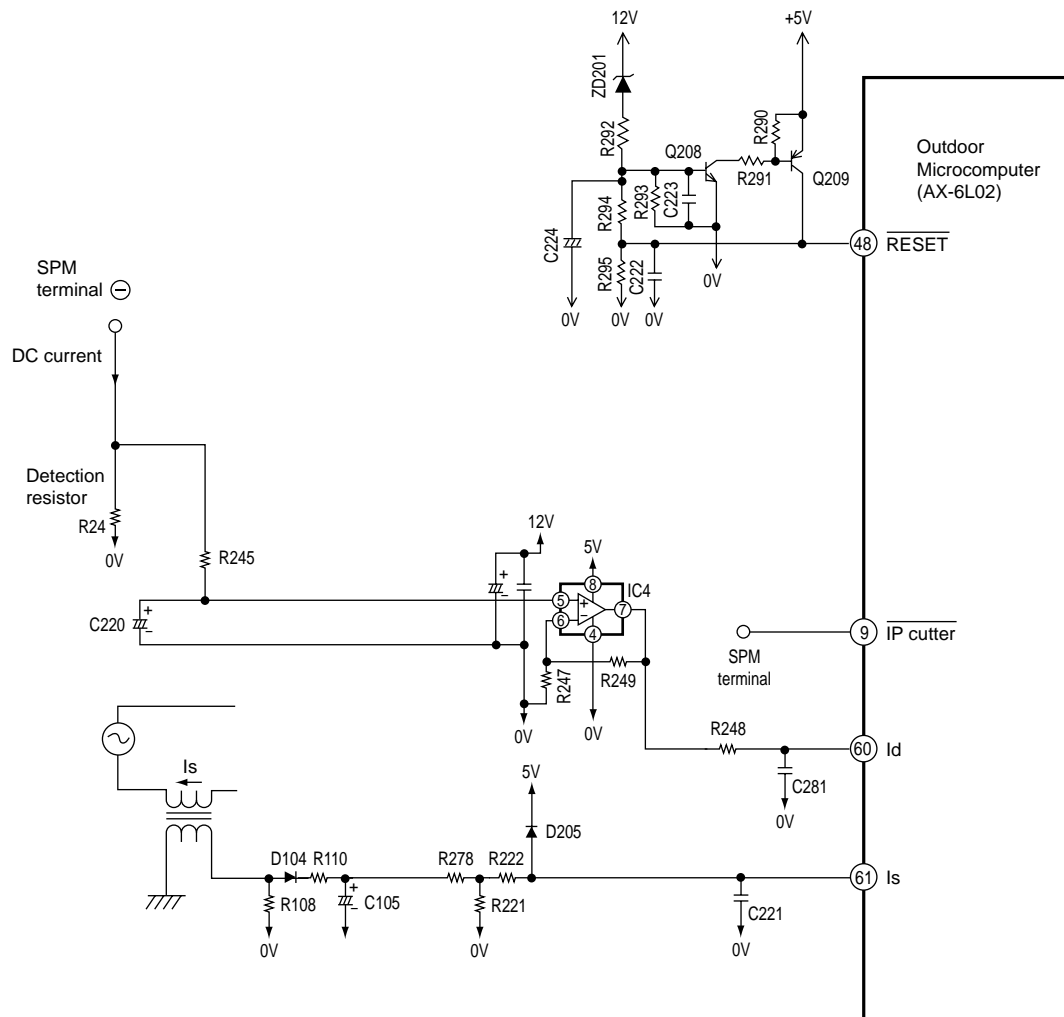

Fig. 7-1 Peripheral circuit of microcomputer (AX-6M00)
- Fig. 7-1 shows the microcomputer and its peripheral circuits.